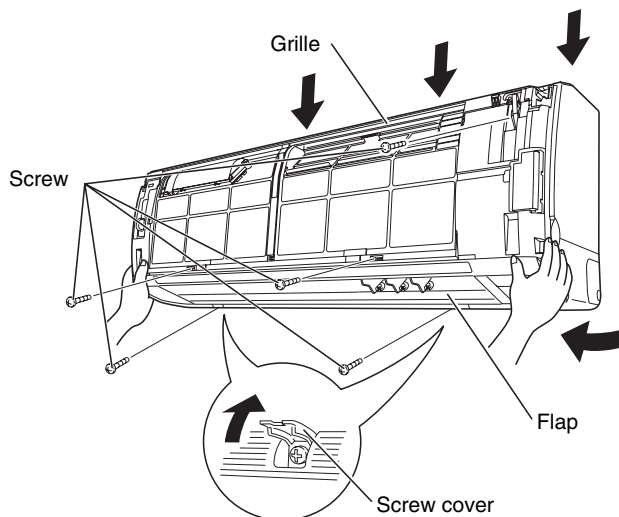

Fig. 10
Also remove the 2 screws where the screw covers are open. (Fig. 10)
- (3) Press the 3 tabs on the top of the grille to disengage them. (Fig. 10)
- (4) Pull the grille toward you to remove it. (Fig. 10)